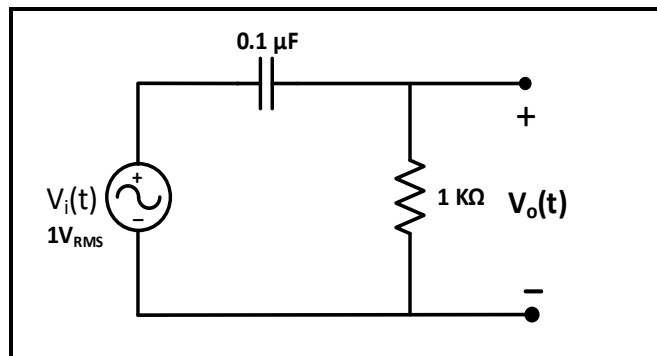

Figure 9.13
1. Calculate the cut-off frequency (f_c) for the high pass and low pass filters shown in Figures 9.13 and 9.14 (use the formulas in the introduction of experiment).
1. Connect the circuit of Figure 9.13, with a sinusoidal input voltage at 1 V_{RMS}.